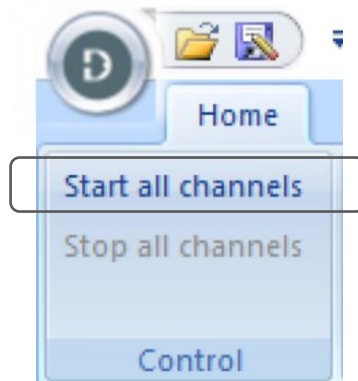

Figure 3.4.21
- Start Channel manually: Use 'Start all channels' in the Control sub menu in the Home menu (figure 3.4.21).